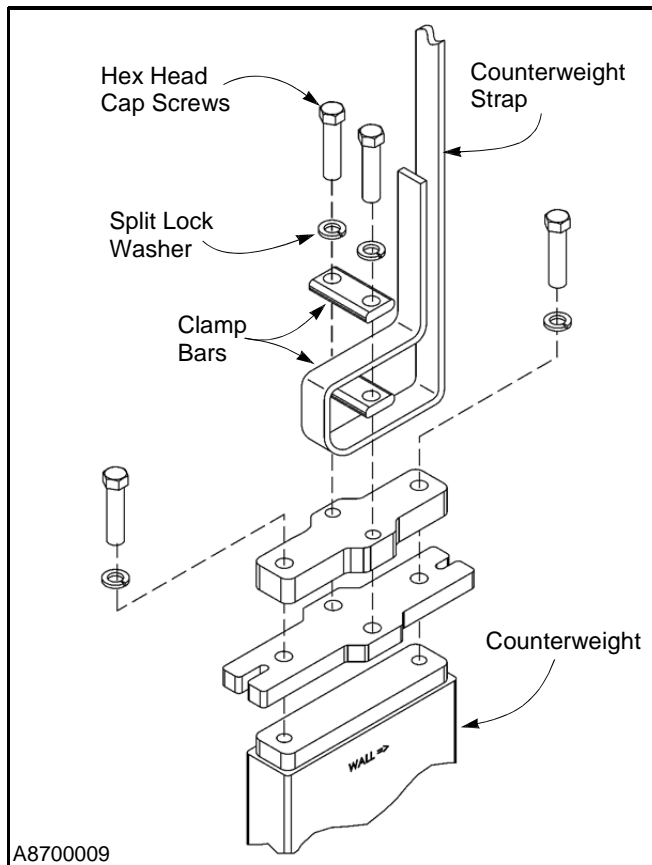

Figure 46
8. Loosen the hex head cap screws to release the clamp bars that secure the strap to the counterweight. (See Figure 46)